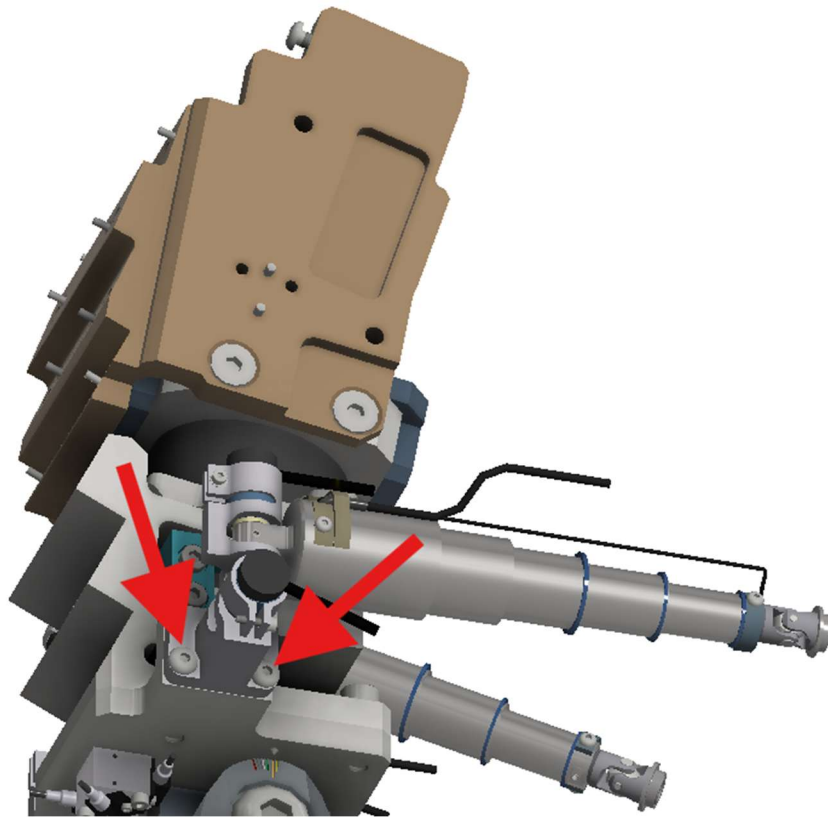

Figure 5-27. Remove the two Lower IR-TRACCs from the Spine Assembly (474-3200-A)
- 5.2.22 Remove the two Lower IR-TRACCs (474-3570-A and 474-3580-A) from the Spinebox Interface Plate (474-3072) by removing two M4 X 0.7 X 12 LG. SHCS per assembly (Figure 5-27).